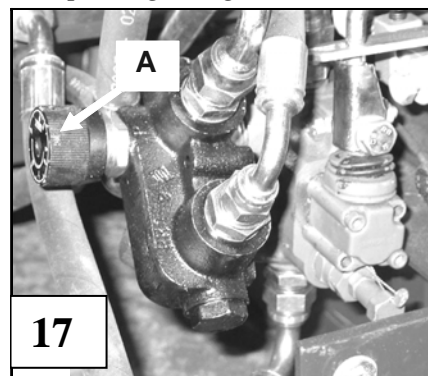

Fig. 17. Flow regulation of the adjustment cylinder
5.6 Adjusting the speed of the splitting wedge adjustment cylinder, Figure 17